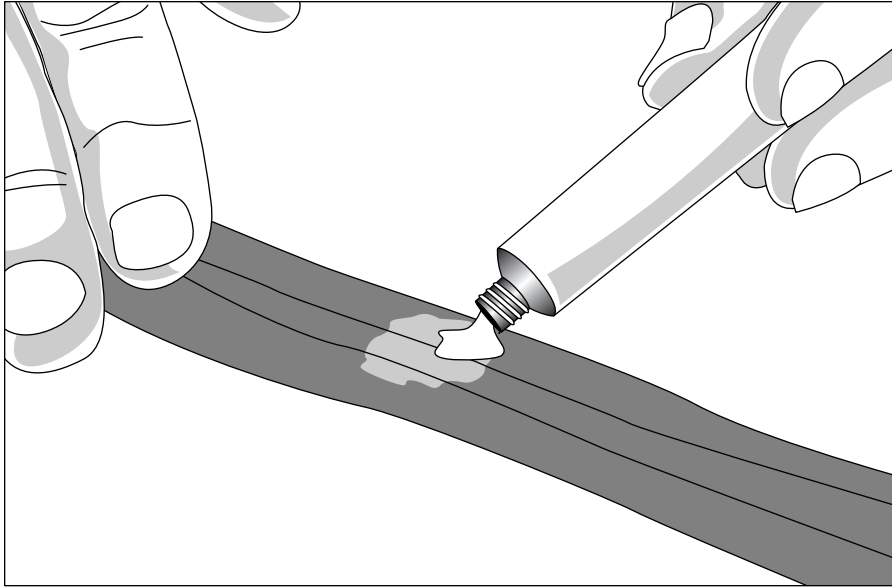

Figure 6-4:
3. Coat the tube with a thin, even layer of glue from the puncture repair kit in an area centered over the puncture and slightly larger than the size of the patch (as shown in Figure 6-4).